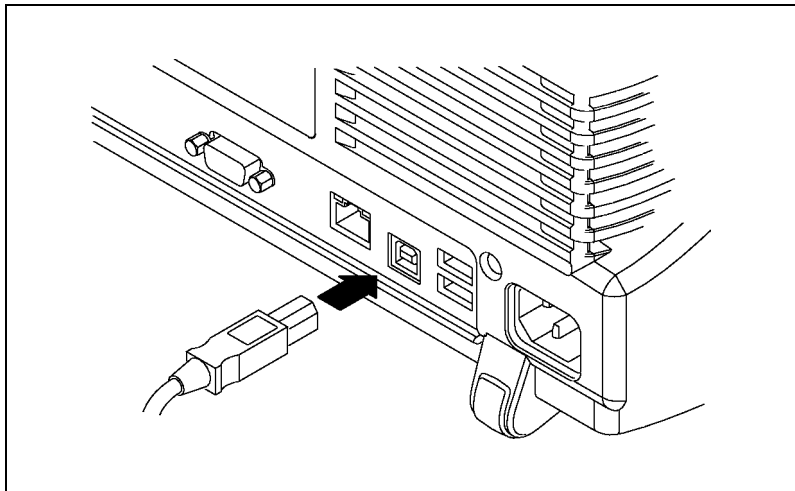

Figure 3-1. Connecting a USB Device Cable to the Back of a DPO4000 Series Oscilloscope
2. Using a USB device cable, plug the Type B, device-side connector into the USB device port on the back of the oscilloscope or arbitrary/function generator, as shown in Figures 3-1 and 3-2. Connect the Type A, host-side connector to the computer.